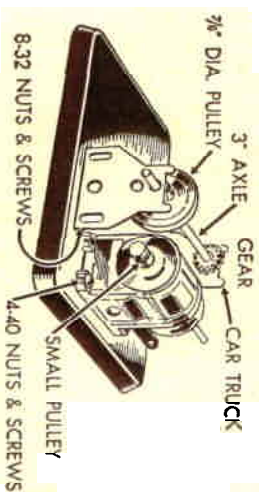

Fig. 41
Figures 41 and 42 show suggested hook-ups with pulleys and gears. The motor is fastened to the base using (2) 4-40 screws and nuts through holes 8 and 9. The red car trucks are fastened to base with (4) 8-32 screws and nuts in holes 3, 4, 10 and 13. The small split brushing is placed on shaft of motor and the small pulley fastened to it with set screw. The large pulley and gear are placed on 3" axle. These two parts are fastened to the axle so there is a little end play between car trucks. This shaft must be free turning. When a piece of string or elastic band is placed over the two pulleys, you will see the driving action of this little "Atom" motor. The pulleys may be reversed with the larger pulley being put on the motor shaft.